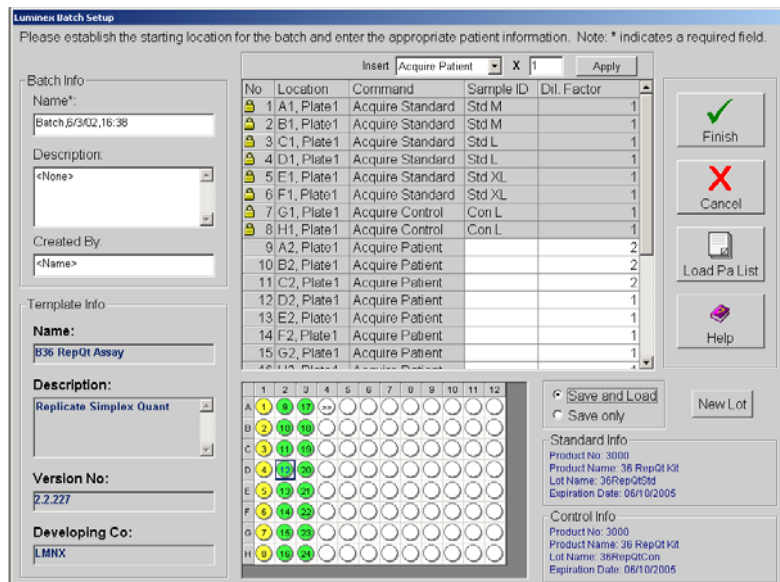

Figure 5-27. Luminex Batch Setup Window
3. Double-click the template you want to apply to the new batch. The template loads, and the **Luminex Batch Setup** window opens. See Figure 5-27.